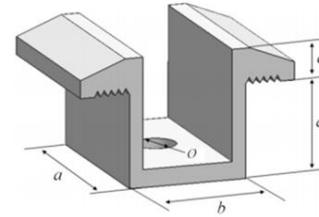
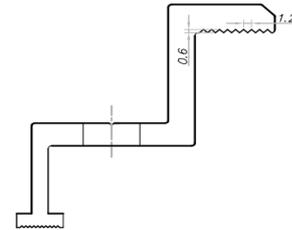

Fig.6 Schematic diagram of the mid clamp
Fig. 7 Schematic cross section of the fringe clamp
② Be sure to avoid shadowing effects from the module clamps. Weep holes on the module frame must not be closed or obscured by the clamps. The clamp must have at least 8mm but no more than 11mm overlap with the frame of the module (The clamp section can be changed under the premise of ensuring reliable installation).
③ The top surface of the rail contacted with module frame should be equipped with grooves compatible with an M8 bolt.
④ If the grooves are not provided, holes of a suitable diameter may need to be drilled to allow bolts attaching to the rail at the same locations as mentioned above.
⑤ Ensure that the mounting sequence of each clamp is in the order of flat washer, spring washer and nut.
⑥ There are two types of clamps, the mid clamp shown in Fig. 6 and the fringe clamp shown in Fig. 7 and Fig. 8. The mid clamp has dimensions of $a \geq 40$ mm, $b \geq 26$ mm, $c \geq 5$ mm, $d \geq 28$ mm, $\varnothing = 9$ mm. For module of 182/210mm-wafer, the size of mid and fringe clamp must meet $a \geq 60$ mm. The tightening torque is suggested to be 17~23Nm for Class 8.8 screw and bolts.
⑦ To prevent modules from coming off the fixed device after installation, it is suggested to choose fringe and mid clamps and make contact with the A side of the frame with groove patterns. Suggest to have 9 patterns with a space between 2 adjacent patterns of 1.2mm and a depth of 0.6mm, as shown in figure 7.